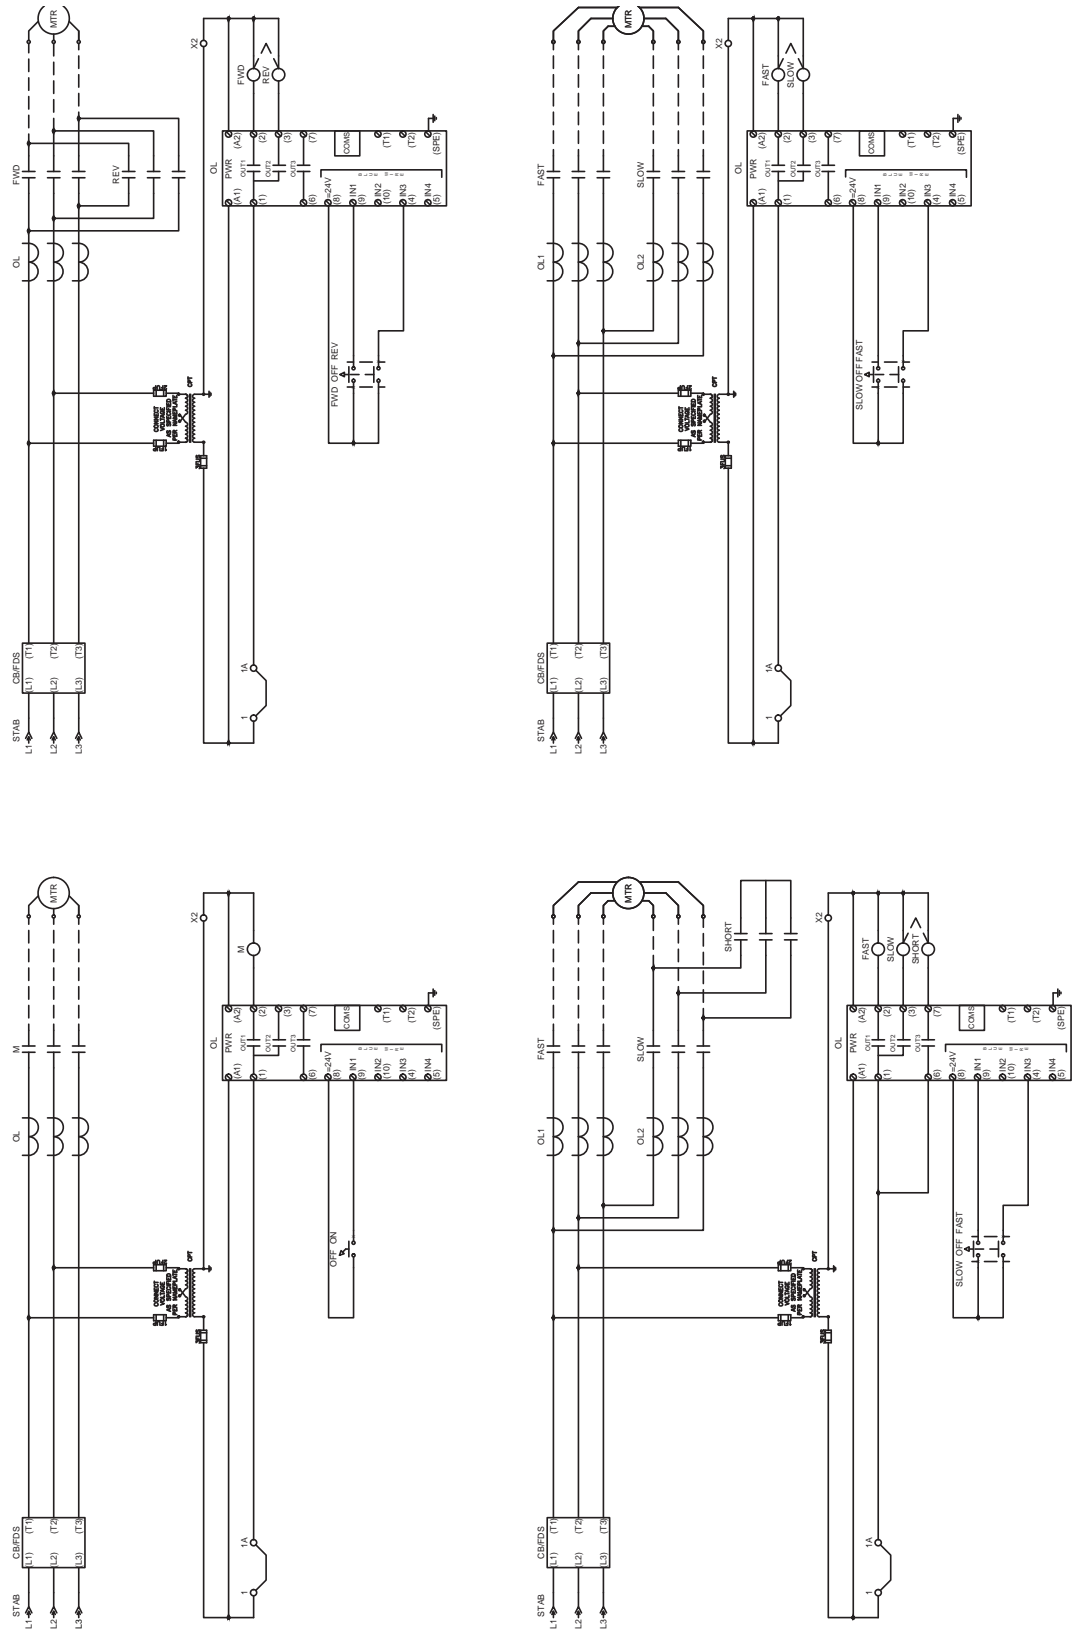

Figure 4
v. MAINTAINED SELECTOR SWITCH (SS)/MAINTAINED BITS (see Figure 4):
vi. MAINTAINED SS/MOMENTARY BITS (see Figure 4):